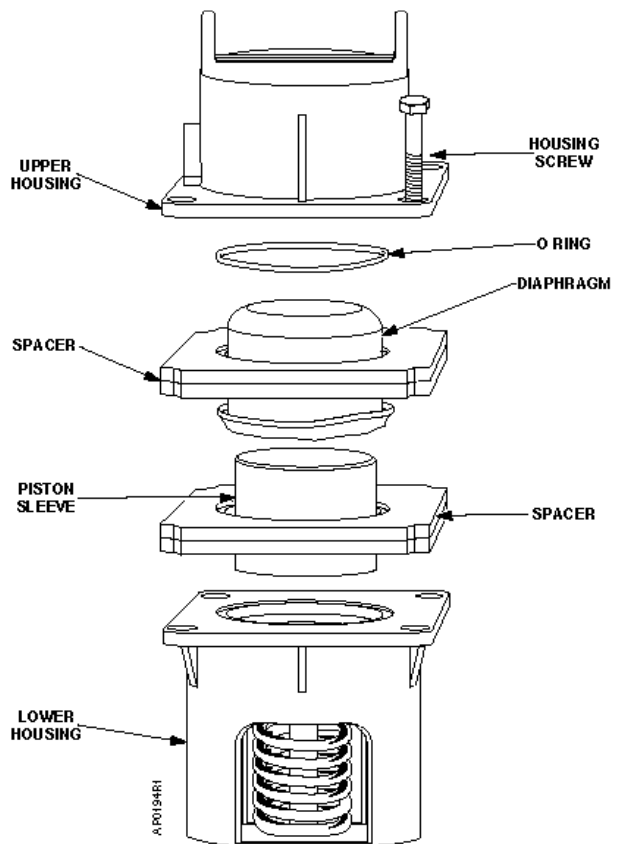

Figure 11.
5. Fold the new diaphragm the same way with the word "TOP" on the diaphragm surface toward the air chamber. See Figure 11.